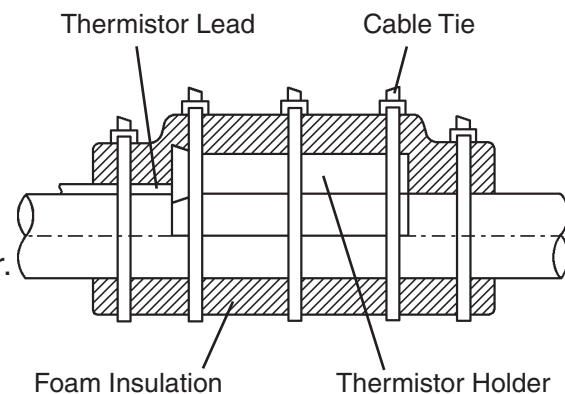

Fig. 2
- 5) Remove the plastic cable ties, foam insulation, thermistor holder and thermistor. See Fig. 2.